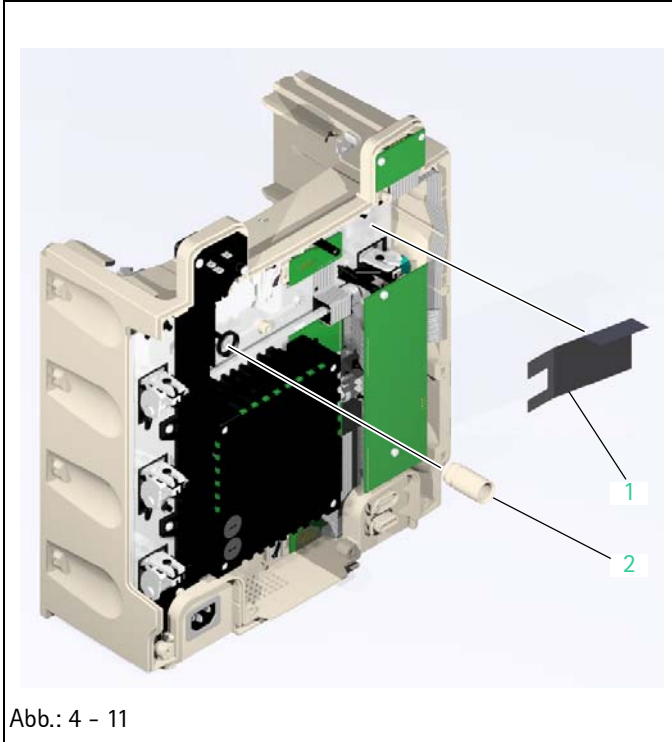

Abb.: 4 - 11
2. Remove SPCO PCB (Abb.: 4 - 10 / Item 2) carefully out of the housing and fold aside; pay attention to the length of the SPCO connecting cable (Abb.: 4 - 10 / Item 1).
Legende zu Abb. 4 - 11:
6. Remove the fastening sleeve (Abb.: 4 - 11 / Item 2) out of the housing.
7. Remove the insulating piece (Abb.: 4 - 11 / Item 1) under the connector board F2A.